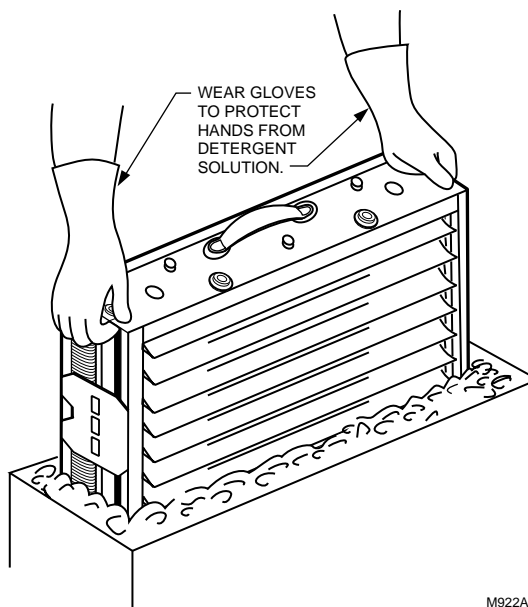

Fig. 20. Washing cell(s) in container.
3. After the detergent has completely dissolved, place the cell(s) in the container and let soak for 15 to 20 minutes. Agitate up and down a few times, and remove. See Fig. 20.